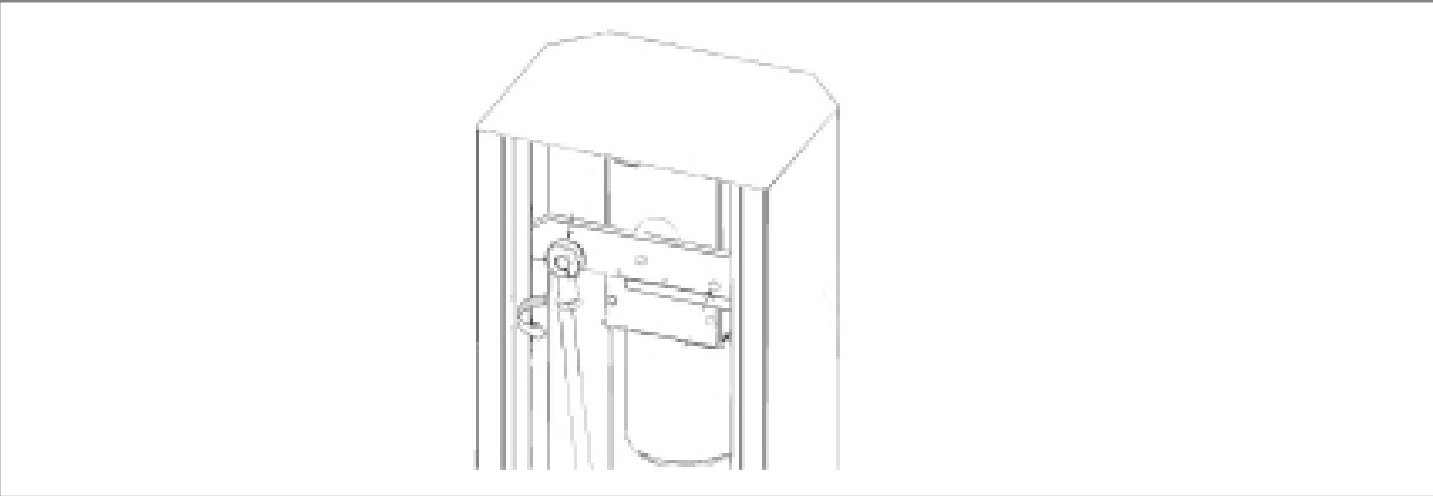

Fig. 6 Adjustment of rod angle
- If you need to adjust the stops of the rods, proceed as follows (Fig. 6):